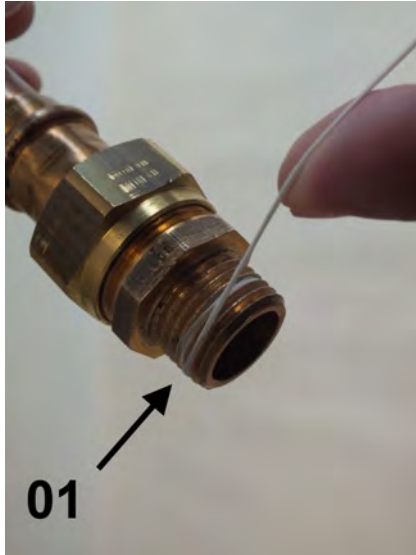

Fig. 9: Apply sealing thread
2.  Apply sealing thread (Fig. 9/01) to the napped thread in the threaded direction. Observe the quantity recommended by the sealant manufacturer.